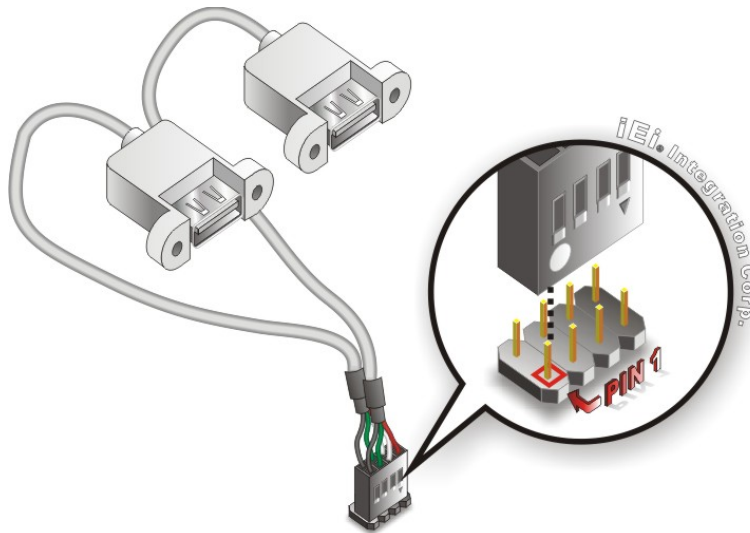

Figure 4-25: Dual-port USB Cable Connection
Step 3: **Insert the cable connectors.** Once the cable connector is properly aligned with the USB connector on the WAFER-ULT/ULT2-i1, connect the cable connector to the on-board connector. See **Figure 4-25**.